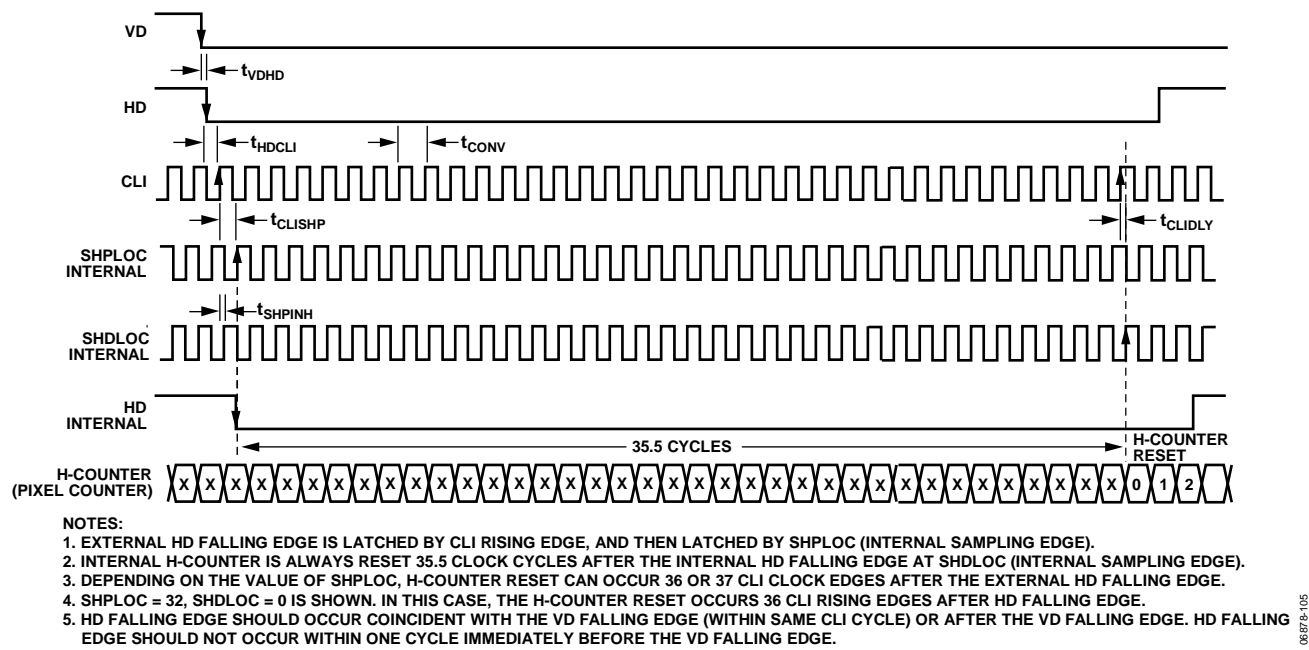

Figure 105. External VD/HD and Internal H-Counter Synchronization, Slave Mode
- There is an inhibit area for SHPLOC to meet the timing requirement  $t_{CLISHP}$  (see Figure 105, Figure 23, and Figure 24). This restriction is necessary to guarantee a stable reset of the H-counter in slave mode.